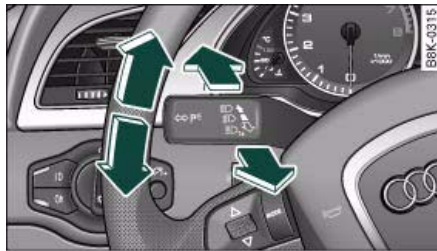

Fig. 61 Turn signal and main beam headlight lever
- Move the lever all the way up to indicate right, or all the way down to indicate left ⇒ fig. 61.